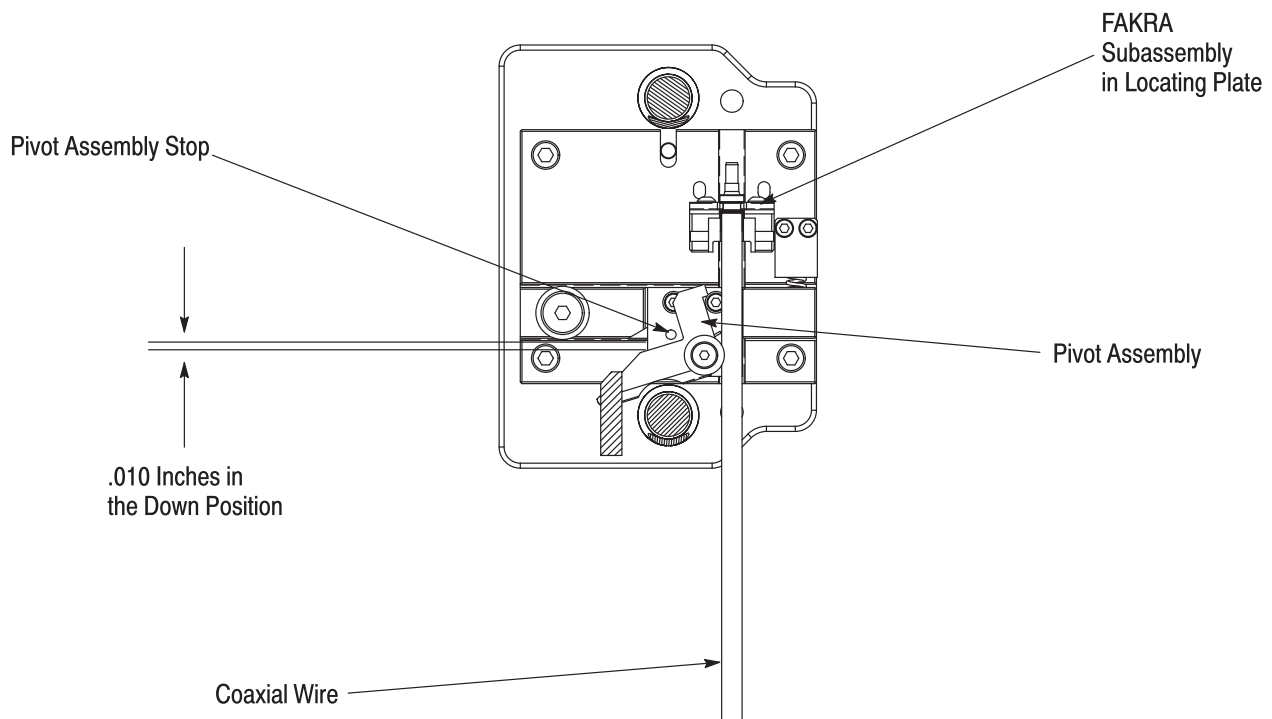
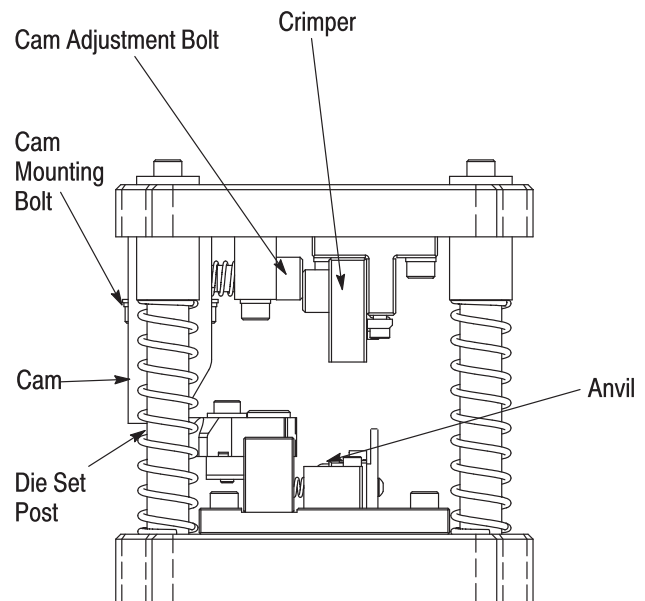

Figure 6
Figure 7
- b. Using the locating plate, place the plug or jack connector in the proper position. See Figure 6.
- Adjust the cam. The cam should be adjusted to pivot the clamp assembly without binding. Loosen the cam mounting bolts and move the adjustment bolt until the cam positions the pivot assembly approximately .010 inches from the stop. Refer to Figure 6 and Figure 7.
The die set post (Figure 7) should be coated with light oil before every usage to help prevent binding and wear.